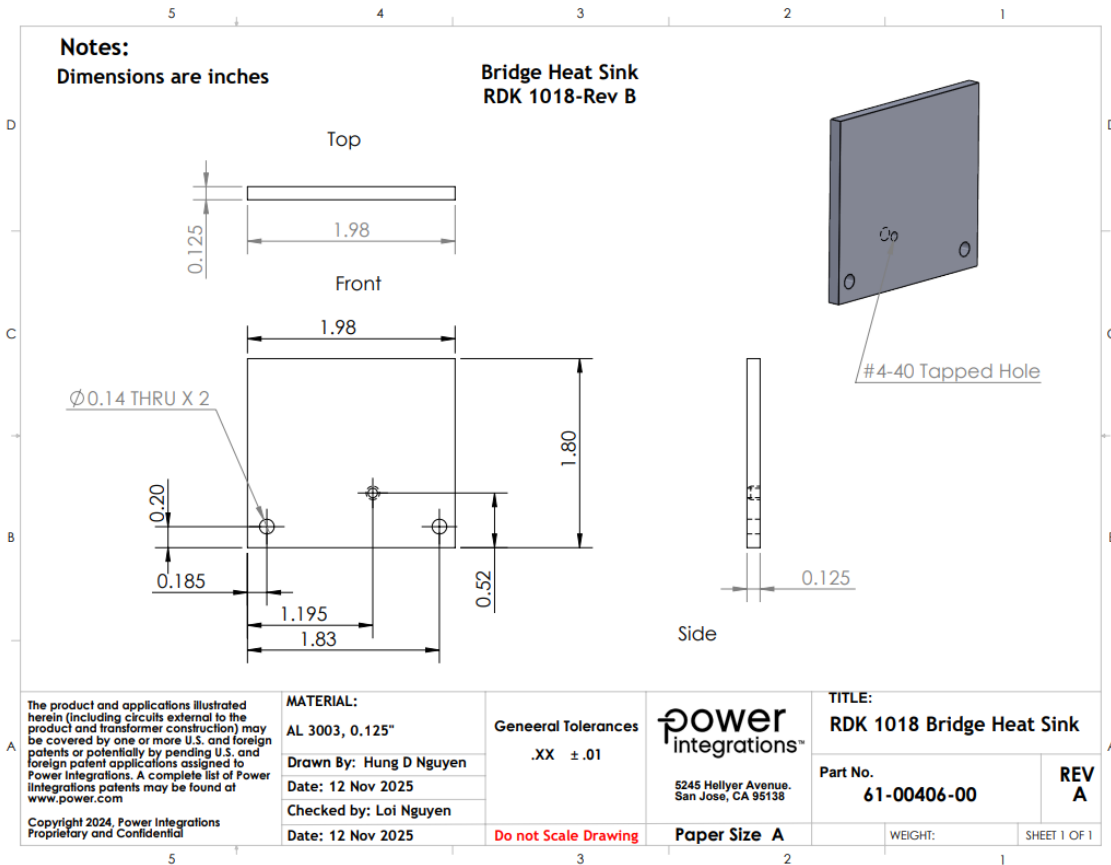

**Figure 12** – Finished Part, Front View.
1. Wind 11 turns of Items [2] and [3] together as shown in figure 12.